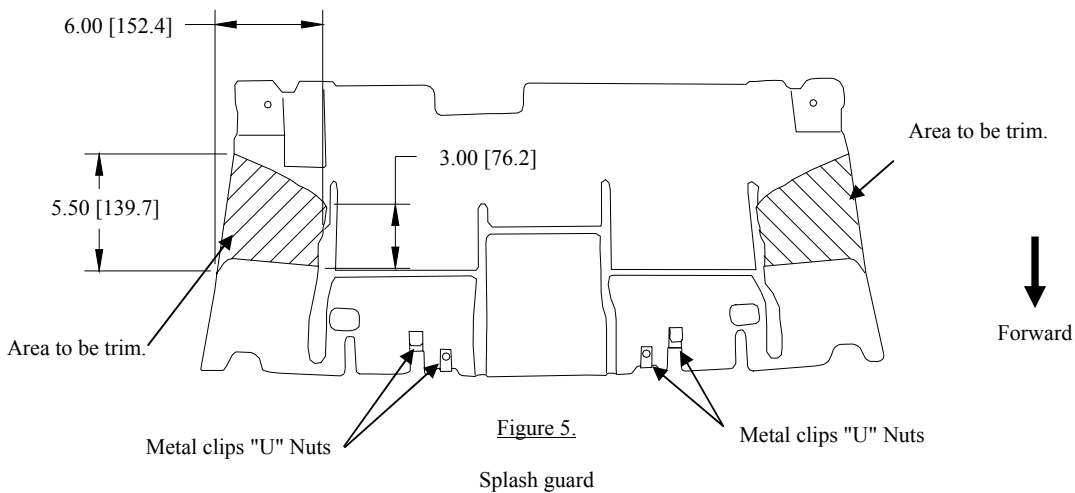

Figure 5.
①	Qty. (4)	Carriage Bolt, 1/2"-13 x 1-3/4"	④	Qty. (4)	Nut, 1/2"
②	Qty. (4)	Spacer, 1/4" x 1" x 3"	⑤	Qty. (4)	Pull Wire
③	Qty. (4)	Conical Toothed Washer, 1/2"
1. Remove splash guard (4) bolts. See Figure 5. Illustration on last page.
7. Return splash guard to owner or obtain owner permission to trim splash guard as shown in Figure 5. Illustration on last page. Trimming recommended